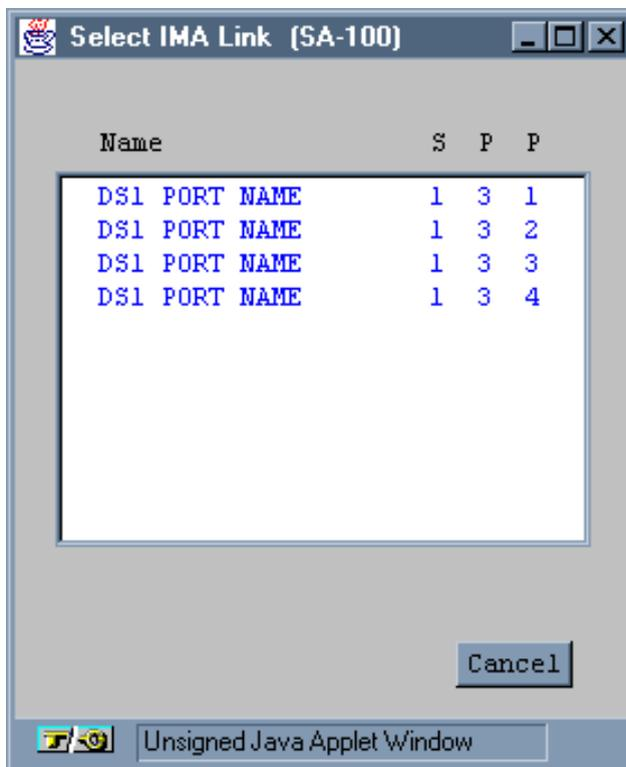

Figure 4-14. Select IMA Link Window
2. Select the Link Stats button. The Select IMA Link window appears (Figure 4-14):